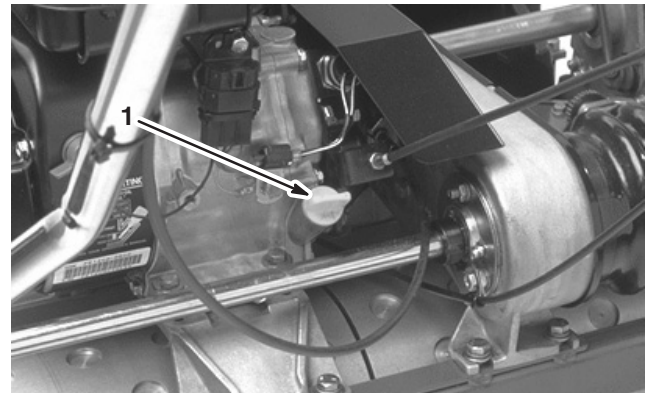

Figure 6
1. Position the mower so the engine is level (Fig. 6).